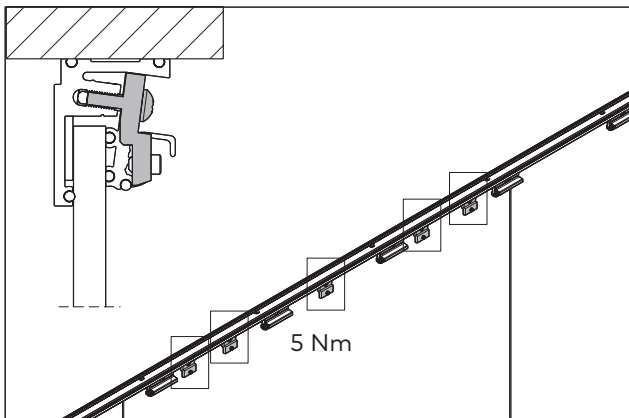

Fig. 8 Distributing and attaching the overpanel clamping pieces
6. Also evenly distribute and attach the five overpanel clamping pieces (Fig. 8).